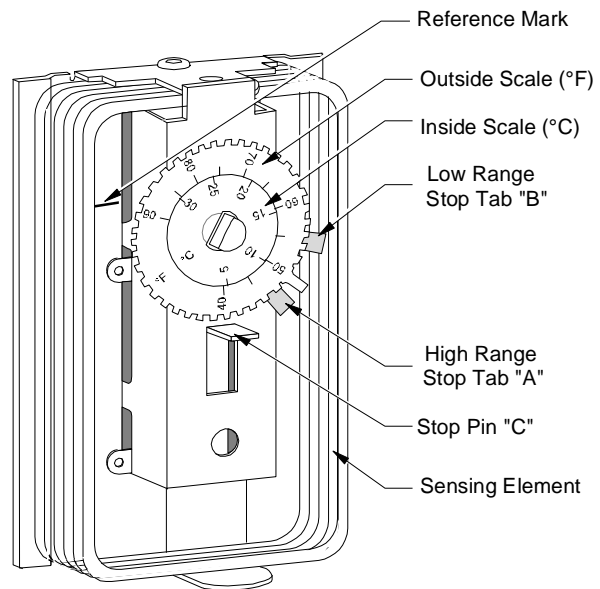

Figure 12: T26 Thermostat Range Tabs and Stop
For concealed dial models (with cover removed), the desired dial setting should be lined up with the reference mark on the base of the thermostat. (See Figure 12.) This will place the desired setting at the 9 o'clock position when the thermostat is held vertically.
4. While holding the dial firmly in place, keeping the setting in line with the reference mark, depress the tab "A" (see Figure 12) and rotate it clockwise until it is against the stop pin "C".
4. While holding the dial firmly in place, keeping the setting in line with the reference mark, depress the tab "B" (see Figure 12) and rotate it counterclockwise until it is against the stop pin "C".
stop pin "C." Depress the tab "B" and rotate it counterclockwise until it is against the stop pin "C." See Figure 12.